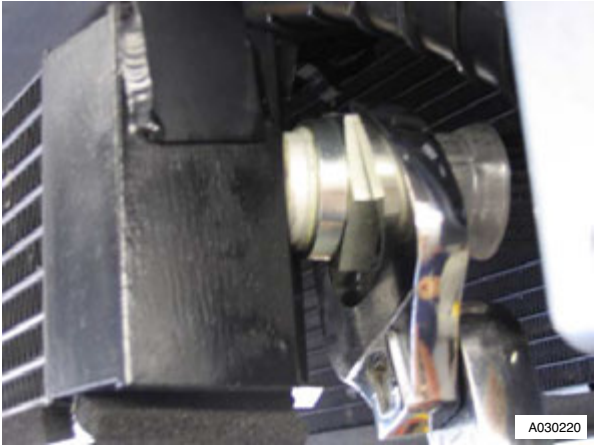

Figure 2
- Remove pipe from oil cooler and pull out from inner wing (position container to catch oil) (refer to Figure 2).